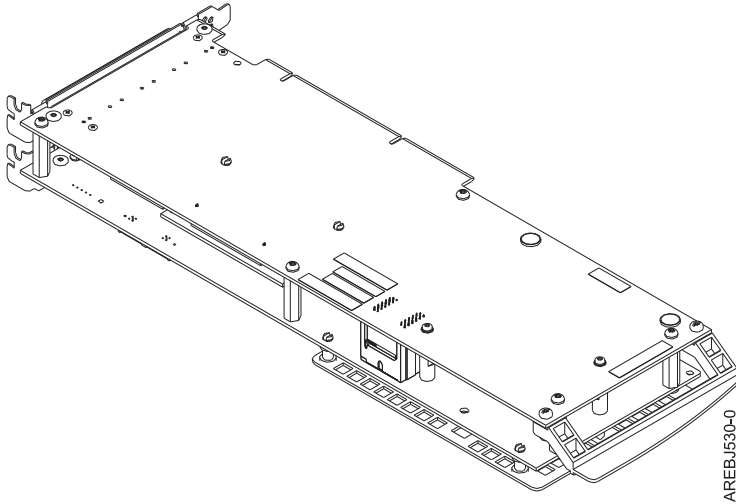

Figure 43. 572F/575C card set adapter
2. Place the 572F/575C card set adapter on an ESD protective surface and orient it as shown in Figure 43.